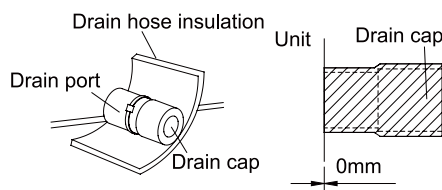

Fig.18
10. The unused drain port also should be insulated properly.(Fig.18)